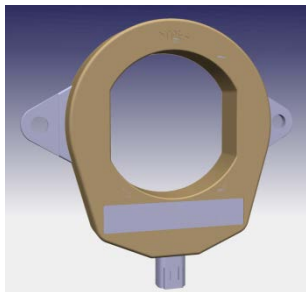

Figure 5 (Round passive entry antenna)
1. Check the passive entry antennas, located at the sides of the instrument panel. If the vehicle is equipped with round passive entry antennas, replace the LH and RH instrument panel antennas with the rectangular versions (Figures 5 and 6).